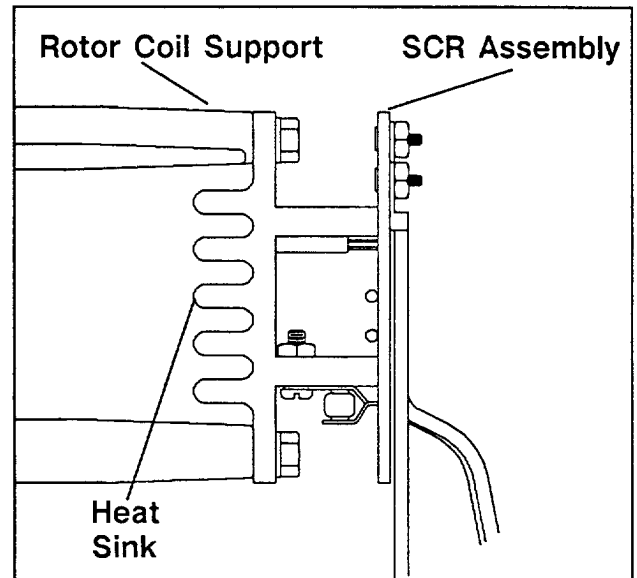

Figure 4. SCR Installation
11. Install SCR assembly in position previously occupied by FR activator and heat sink; secure with screws retained from step 10. SCR heat sink should face engine end of generator as shown in Figure 4.